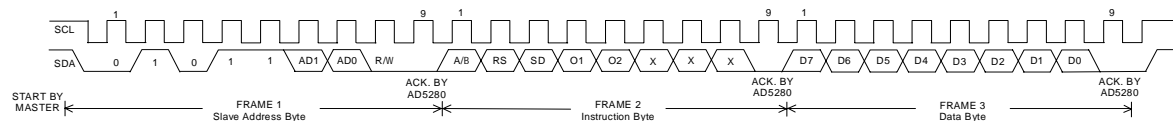
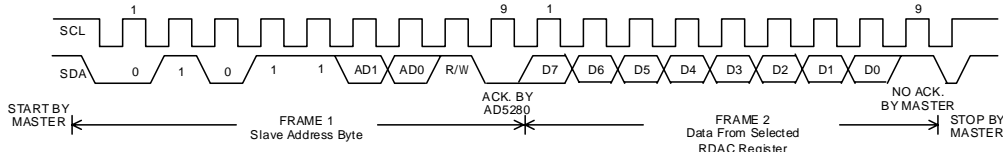

Figure 2. Writing to the RDAC Register
Figure 3. Reading Data from a Previously Selected RDAC Register
Referring from Figures 2 and 3, the first byte of AD5280/AD5282 is a Slave Address Byte. It has a 7-bit slave address and a R/W bit. The 5 MSBs are 01011 and the following
1. The master initiates data transfer by establishing a START condition, which is when a high-to-low transition on the SDA line occurs while SCL is high, Figure 2. The following byte is the Slave Address Byte which consists of the 7-bit slave address followed by an R/W bit (this bit determines whether data will be read from or written to the slave device).
2. A Write operation contains an extra Instruction Byte more than the Read operation. Such Instruction Byte in Write mode follows the Slave Address Byte. The MSB of the Instruction Byte labeled A/B is the RDAC sub-address select. A "low" select RDAC1 and a "high" selects RDAC2 for dual channel AD5282. The 2nd MSB RS is the Mid-scale reset. A logic high of this bit moves the wiper of a selected RDAC to the center tap where  $R_{WA}=R_{WB}$ . The 3rd MSB SD is a shutdown bit. A logic high causes the RDAC open circuit at terminal A while shorting wiper to terminal B. This operation yields almost a zero Ohm in rheostat mode or zero volt in potentiometer mode. This SD bit serves the same function as the  $\overline{SHDN}$  pin except it reacts in active low. The following two bits are O2 and O1. They are extra programmable logic output that users can make use of them by driving other digital loads, logic gates, LED drivers, and analog switches, etc. The 3 LSBs are DON'T CARE. See Figure 2.
condition, Figure 2. In Read mode, the master will issue a No Acknowledge for the 9th clock pulse (i.e., the SDA line remains high). The master will then bring the SDA line low before the 10th clock pulse which goes high to establish a STOP condition, Figure 3.